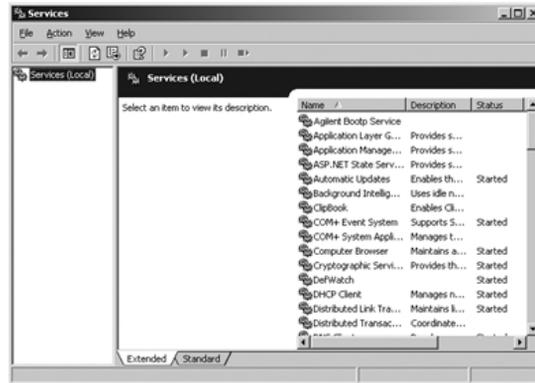

Figure 23 Windows Services screen
- 1 In the Windows control panel, select **Administrative Tools > Services**. The **Services** screen appears, see Figure 23 on page 75.